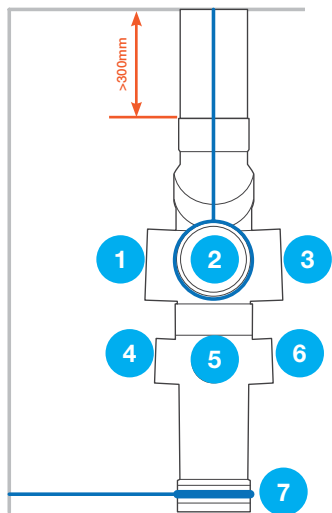

Figure 8
- 8.3** Connecting to the top centre 100DN inlet – when connecting to the top centre 100DN inlet (Position (2)) simply remove the 100DN plug that comes with all Converge aerators and form the connection using the standard solvent cement joining procedure (see Fig. 8).